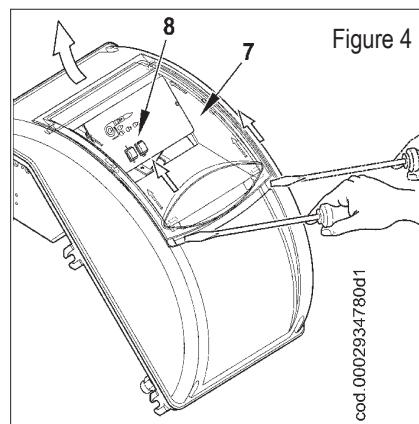

Figure 4
- To close the switchboard cover, tighten the 4 screws (1) to a torque of approx. 5 Nm in order to ensure proper sealing. Now, to gain access to the control panel (8), release the clear door (7), by slightly prising with a tool (e.g. screwdriver) in the direction of the arrows shown in figure 4, let it slide shortly and then separate it from cover.
- To properly secure the transparent door on the panel again, proceed as indicated in 5: position the hooks at their hooking points and (9) slide the door in the direction indicated by the arrow until it clicks. It is now well sealed.